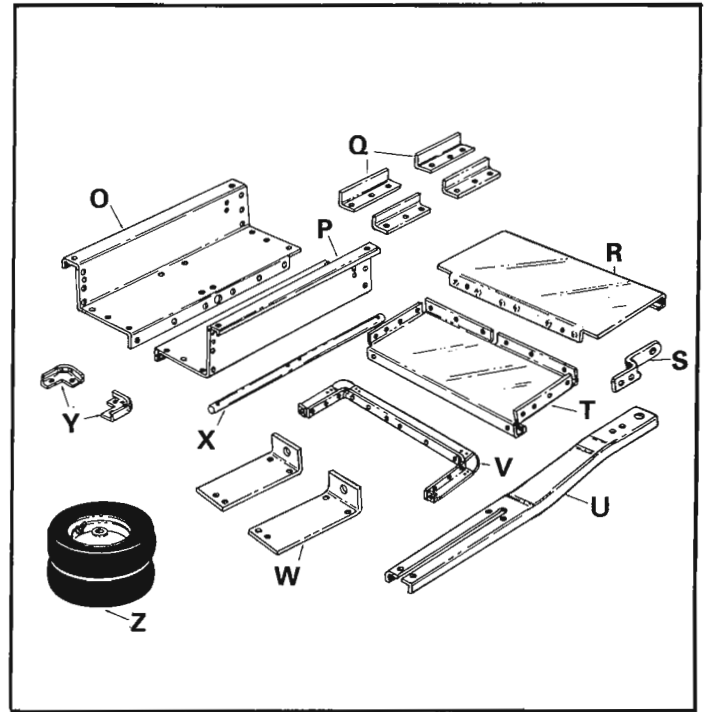

FIGURE 2
(See figure 2)
2. Layout all the parts as shown in figure 2.